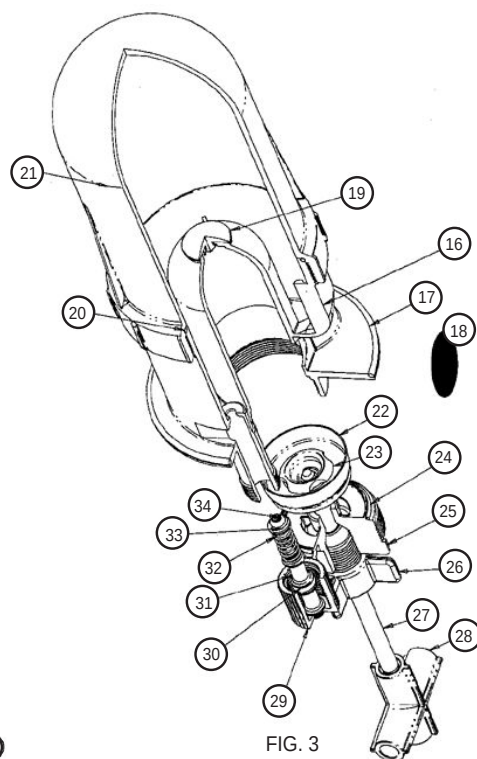

FIG. 3
9. Check packing seal nut (fig. 3, item 26) and tighten if loose to avoid leakage at pump shaft.
1. Release air pressure by turning pressure control valve (fig. 3, item 29) in counterclockwise direction.
5. Slide pump housing (fig. 3) out of tank cavity.
6. Inspect O-ring (fig. 3, item 17) for damage or wear. Replace if necessary.
7. Inspect filter screen (fig. 3, item 18) for dirt or debris. Rinse with clear water or replace if necessary.
8. Remove pressure control valve (fig. 3, item 29) adjusting knob by turning counterclockwise. Inspect for damage or wear. Replace if necessary.
9. Unscrew pressure chamber (fig. 3, item 21) from pump cylinder (fig. 3, item 16). Inspect O-ring (fig. 3, item 20) for wear. Replace if necessary. Remove check valve (fig. 3, item 19) on top of pump cylinder. Inspect all sealing surfaces on both the valve and the cylinder areas for debris and scratches. **It is important for these areas to remain clean or the unit will not pressurize.** Replace check valve if necessary.
10. Unscrew the pump nut (fig. 3, item 25) to reveal the pump cup retainer assembly (fig. 3, item 22 & 23). Carefully inspect the external surfaces of the cup for scratches or cracking. Also inspect the mating pump cylinder walls for scratches. Excessive wear will cause the pump to lose efficiency. Replace as necessary.
11. Remove the packing seal nut (fig. 3, item 26) from the pump nut (fig. 3, item 25). Inspect all sealing surfaces on the rod and nut for scratches. Replace as necessary.
12. Inspect pump nut O-ring (fig. 3, item 24) for damage or wear. Replace if necessary.
PUMP ASSEMBLY (FIG. 3)
PUMP ASSEMBLY CONTINUED (FIG. 3)